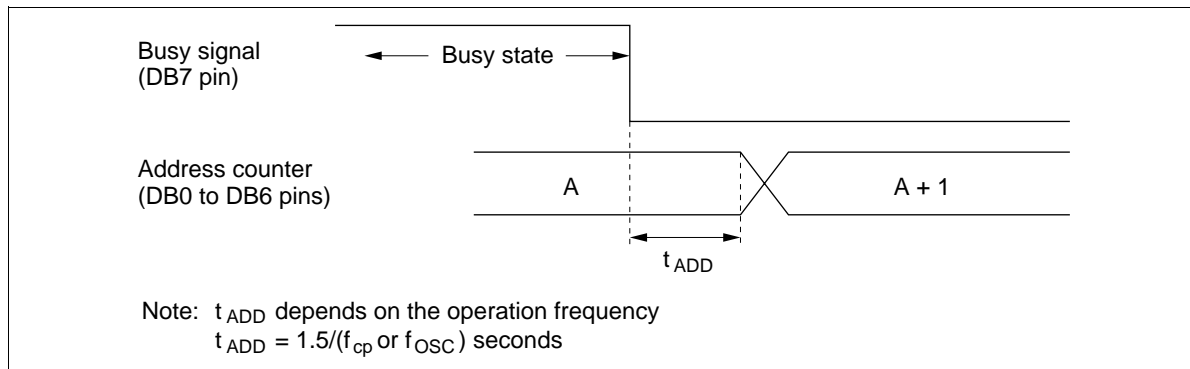

Figure 10 Address Counter Update
- * After execution of the CGRAM/DDRAM data write or read instruction, the RAM address counter is incremented or decremented by 1. The RAM address counter is updated after the busy flag turns off. In Figure 10, t_{ADD} is the time elapsed after the busy flag turns off until the address counter is updated.